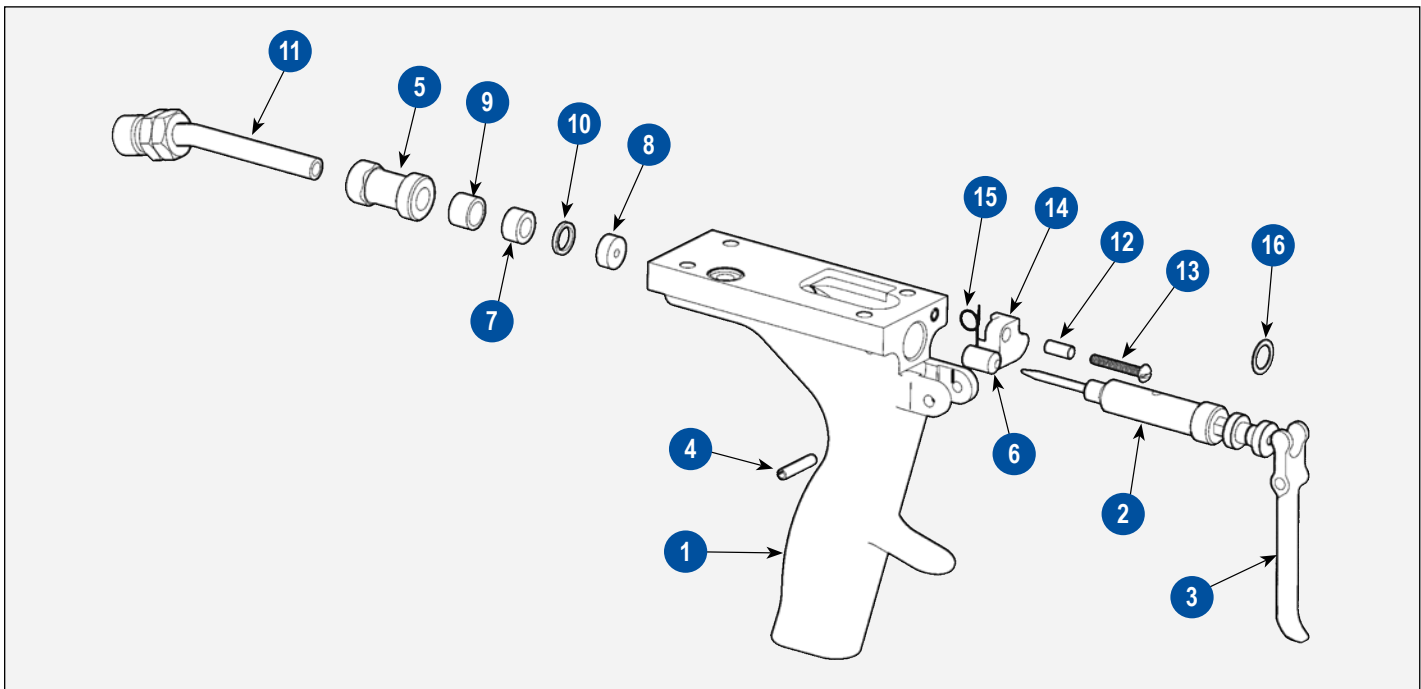

Figure 19: Handle Assembly Diagram
HANDLE ASSEMBLY (Figure 19)
- Reverse the handle assembly so that the side marked "X" is up (Reference Figure 19). Insert trigger, making sure that the curved lower tip of the trigger is pointed away from the handle and the thrust washer is to the front of trigger.